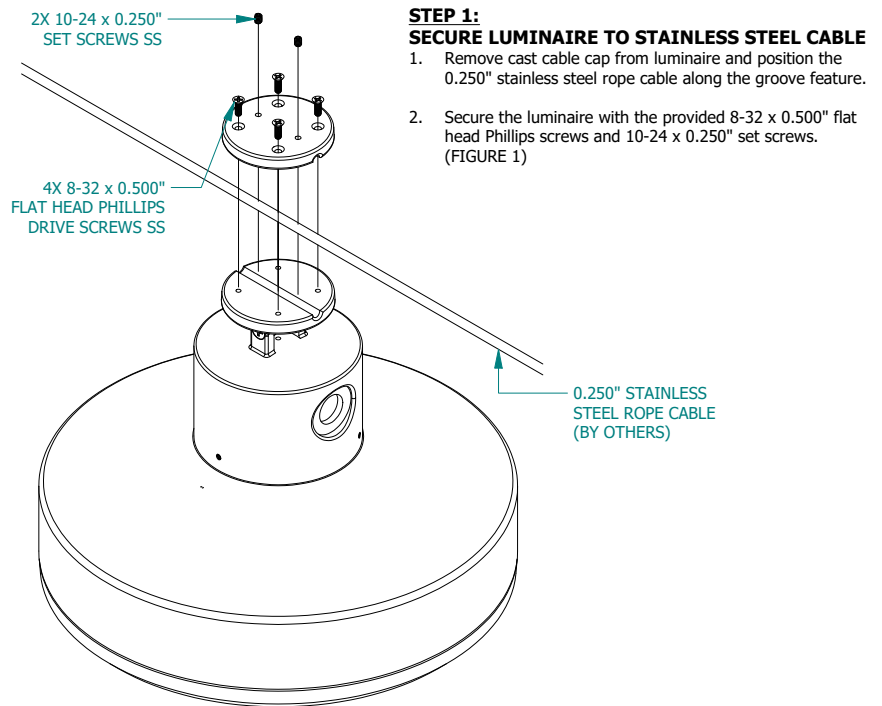

FIGURE 1
2. Secure the luminaire with the provided 8-32 x 0.500" flat head Phillips screws and 10-24 x 0.250" set screws. (FIGURE 1)